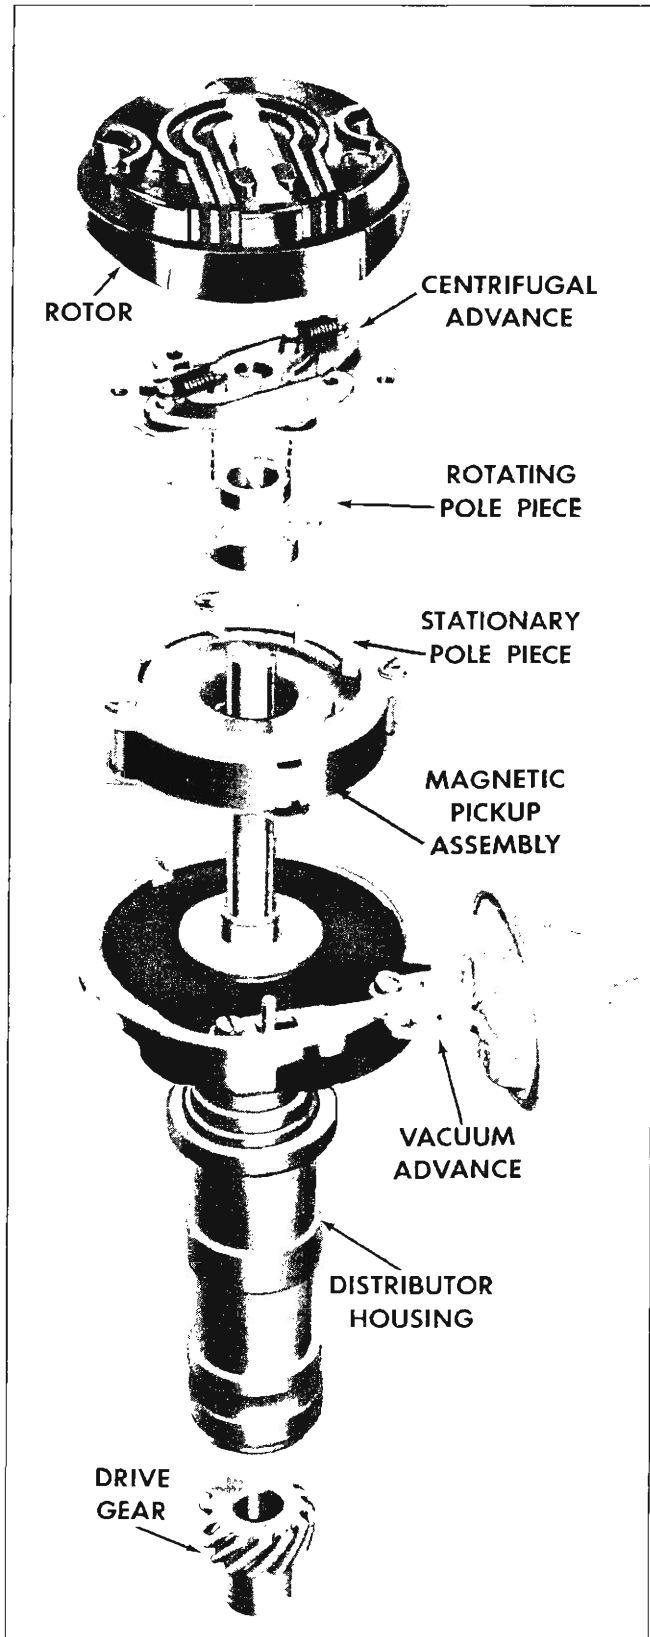

Fig. 16i—Magnetic Pulse Distributor Components
**NOTE:** It is important that the spark plug wires be installed in their proper location in the supports (fig. 16i).
**DISASSEMBLY (Fig. 16i)**